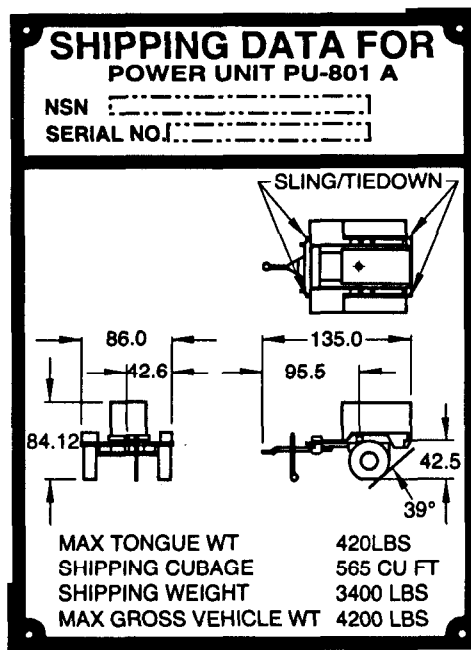

Figure 2-17.1. PU-801A Shipping Dots/Identification Plate.
**2-6.6 PU-801A Shipping Data/Identification Plate.** Refer to figure 2-17.1. This plate is located on the front of curbside fender.